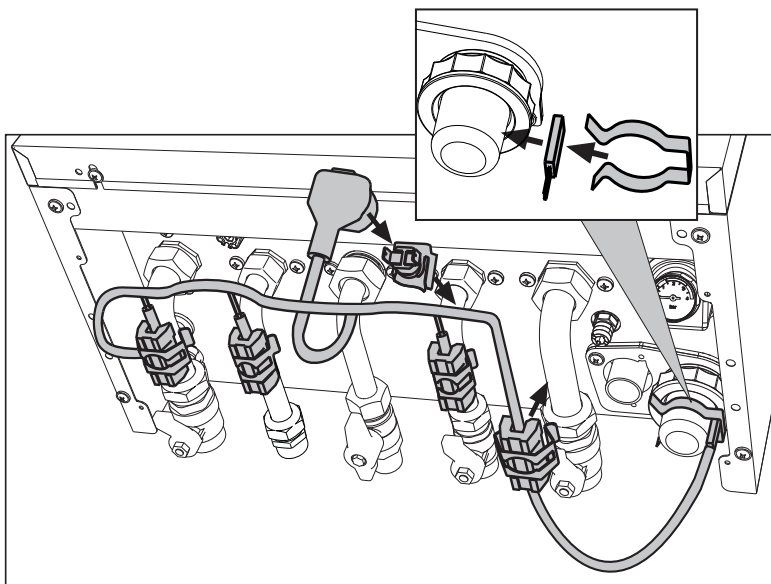

fig. 39- Frost protection kit
In case of installation outside in a place partially protected for temperatures below -5°C and to -15°C , the boiler must be fitted with the special frost protection kit for protecting the circuit. Connect the kit to the PCB as indicated in the wiring diagram in fig. 60 (ref. 288) and position the thermostat and heaters on the pipes as indicated in fig. 39 and in the instructions provided with the kit.